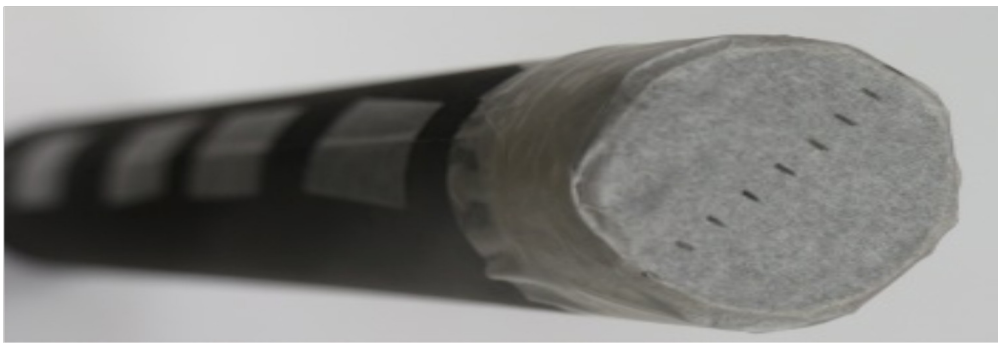

Figure 3: *Markings on screen for measuring image size*
ii. Cover the other end of the tube with a translucent sheet of tracing paper or a similar material. This sheet will work as the screen. Let us call this tube as the image tube (IT). Put the markings on the screen as shown in figure 3 at every 5 mm. The markings will help in measuring the size of the image formed on the screen in task 3.